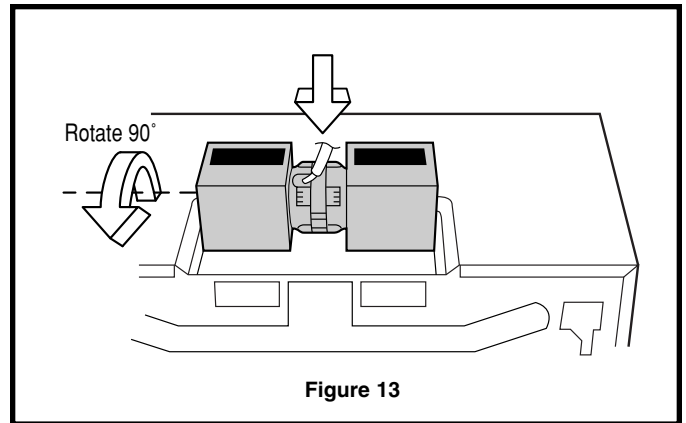

Figure 13
3. Turn the Hood Fan Unit end-over-end. Rotate the Hood Fan Unit 90° so that the fan blade openings are facing upward. Replace Hood Fan Unit into the oven. Be careful not to pinch the lead wire between the inner bracket and the Hood Fan Unit. See Figure 13.
4. Put the lead wire into Wire Box. See Figure 13.